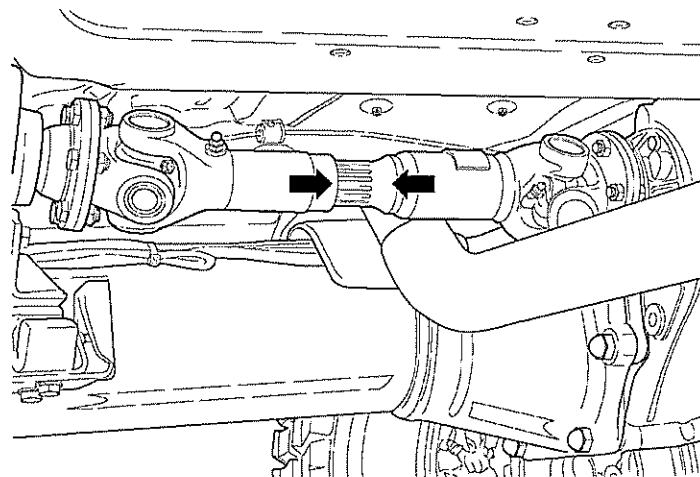

Fig 4 Prop shaft alignment marks
5.10 Check arrow markings on prop shaft. Arrows on shaft must face each other. Insert bolts from gearbox side into flanges. Put on new self-locking nuts. Twist shaft so that marking arrows are positioned at top centre and tighten to correct torque (see Table 1, Ser. 1 and Fig 4).